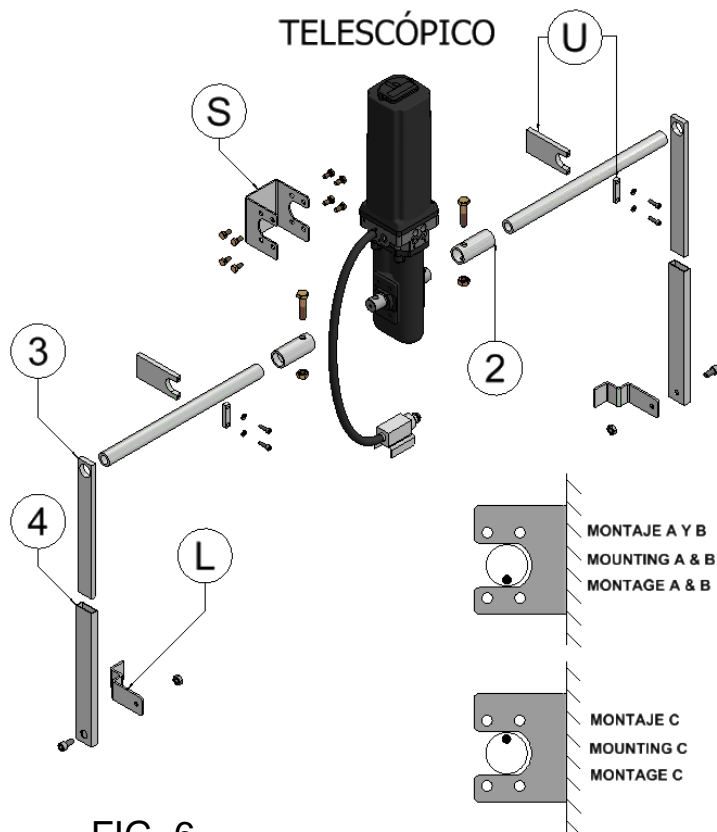

FIG. 6
Installation accessories Figure 6.
1. Fix motor support "S" shown in figure 6 on the door in the position shown in figures 2, 3 or 4, depending on the mounting type.
3. Insert part "2" of figure 6 10mm into a transmission bar O/D 28mm and weld. This bar is not supplied with the mounting kit. (It is recommended that this bar is a pressure tube with wall thickness 4 or 5mm).
4. Position part "U" of figure 6 as shown in figures 2,3 or 4 such that the transmission bars are completely in line with the axis of rotation of the operator.
5. Fix supports "L" of figure 6 as shown in figures 2,3 or 4, depending on the mounting type.
6. Mount parts "4" of figure 6 to support "L" of figure 6 and insert parts "4" with part "3" of figure 6.
7. Insert the transmission bars welded to part "2" in the hole of part "3" figure 6. Mount the transmission bars in the operator and fix them with parts "U".
8. The point marked on the rotary shaft on the right-hand side of the operator 1RM* and 2RMI* must be as shown in figure 6, depending on the mounting type. Before welding parts "3" to the transmission bars the operator should be rotated approximately 5 degrees away from the end position. With the door completely closed, proceed to weld.
10. Open the upper cover (marked "1" in figure 6) which gives access to the connection terminals and connect as shown in figure 8.